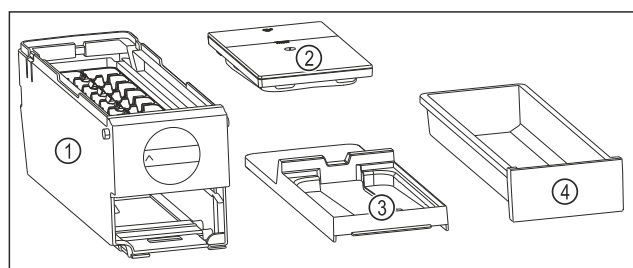

Fig. 80 Components of the EasyTwist-Ice
- EasyTwist-Ice is dismantled into four parts. (see Fig. 80)
- Only dismantle the EasyTwist-Ice into the components shown. (see Fig. 80)
- Clean the EasyTwist-Ice body Fig. 80 (1) as a whole.